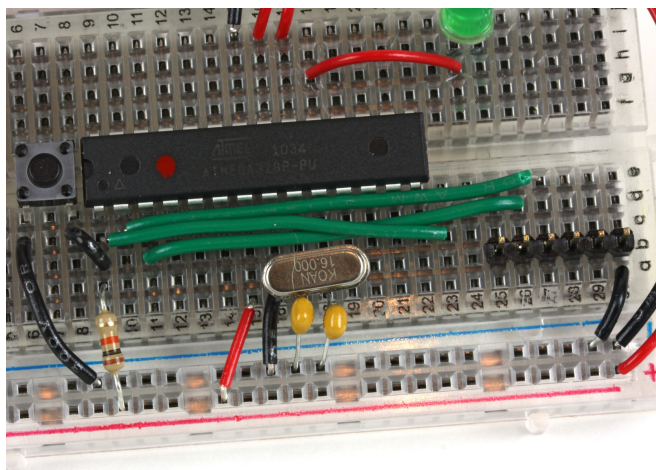

Figure 1-8. *The programming header connected to the ATMega*
8. The final step is to add a 1/2” piece of black wire from “a30” to the ground rail (-) of the breadboard. Figure 1-8 shows the completed connections.